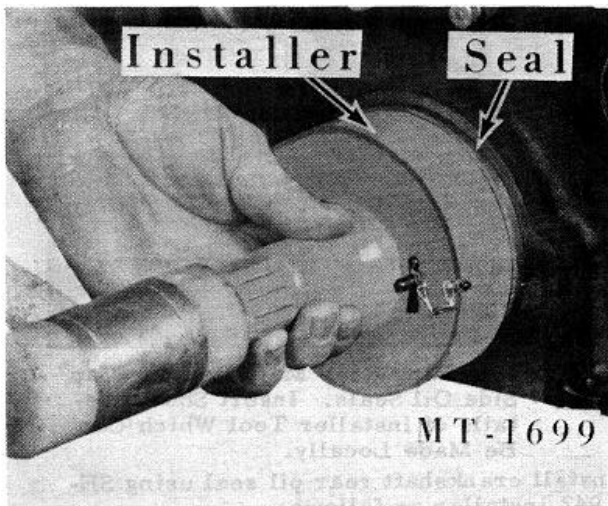

Fig. 147 Installing Crankshaft Rear Oil Seal Using SE-1942 Installer
- c. Place installer with pilot and seal over end of crankshaft, aligning seal with crankcase bore. Then drive seal into bore until it is flush with rear face of crankcase. See Fig. 147.